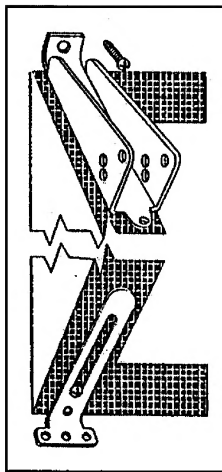

Fig. 2
3. Fasten the appliance to the unit with wood screws, 4.2 x 15, flat countersunk head and cross-cut, to be inserted in the central position of the slot on the hinge side and in the 'I' bracket located on the opposite side (see Fig. 2). In case of a version without fastening wing, or when it is not possible to fasten the appliance